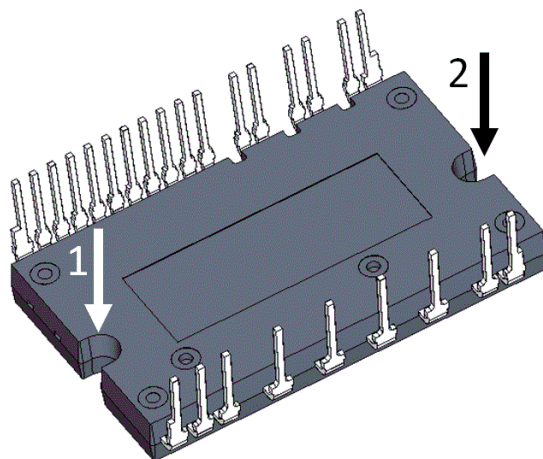

Figure 10. Mounting Screws Torque Order
See Figure 10
9. Avoid one side tightening stress. Figure 10 shows the recommended torque order for mounting screws. Uneven mounting can cause the ceramic substrate of the SPM 45 package to be damaged. The pre-screwing torque is set to 20 – 30% of maximum torque rating.